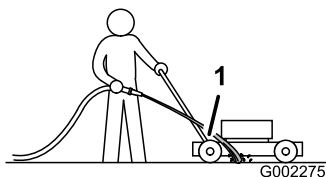

Figure 20
3. Hold the running garden hose at handle level and direct the water to flow on the ground just in front of the right, rear wheel (Figure 20).